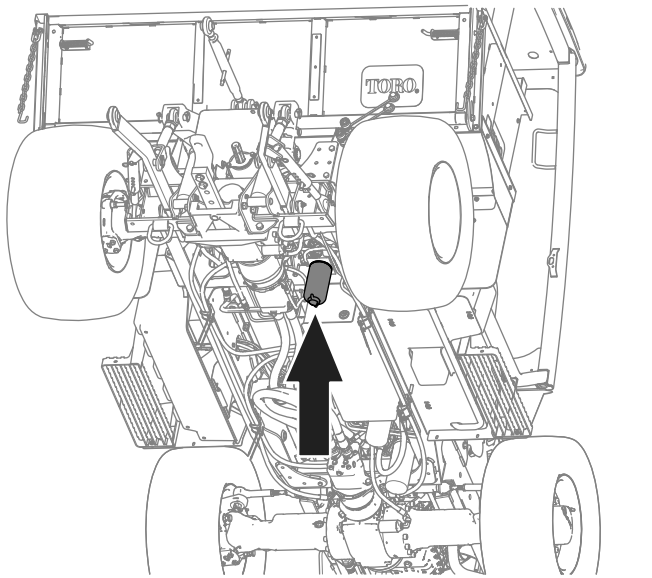
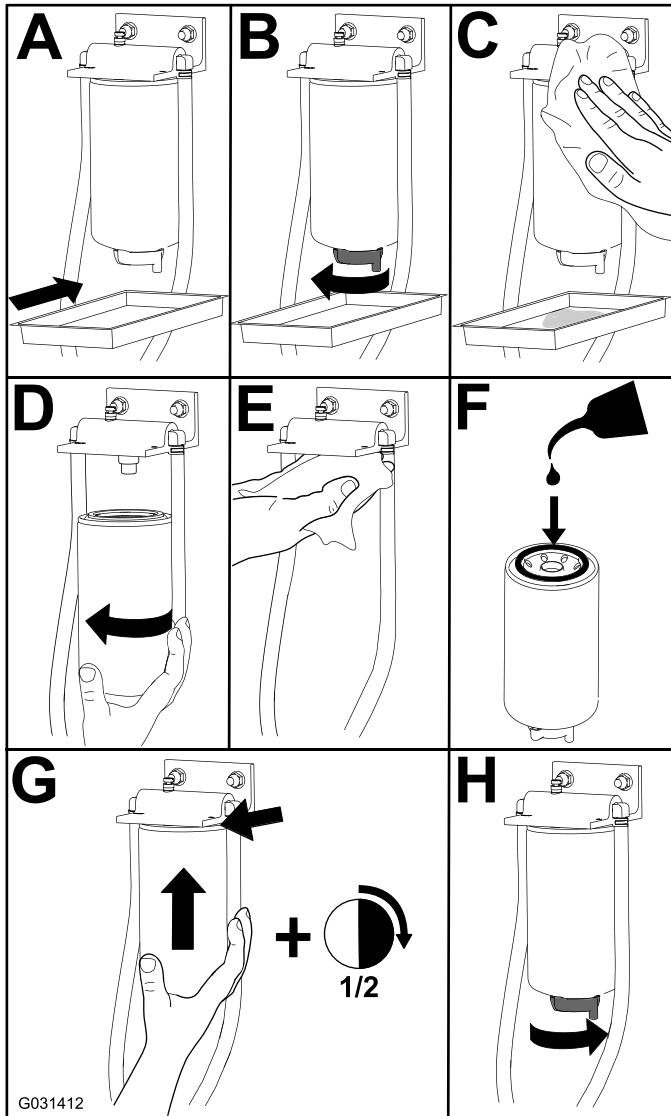

Figure 85
Figure 86
1. Service the water separator (Figure 85) as shown in Figure 86.